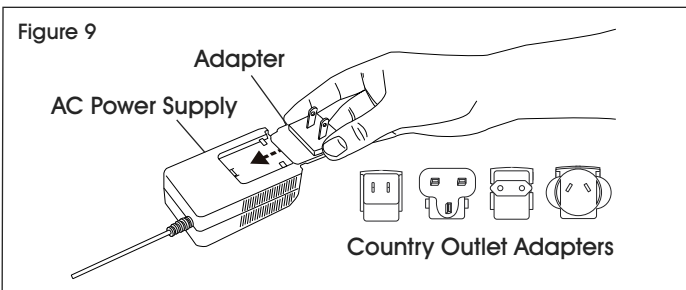

Figure 9
2. Choose the appropriate country outlet adapter and slide it into the AC power supply. (See Figure 9)